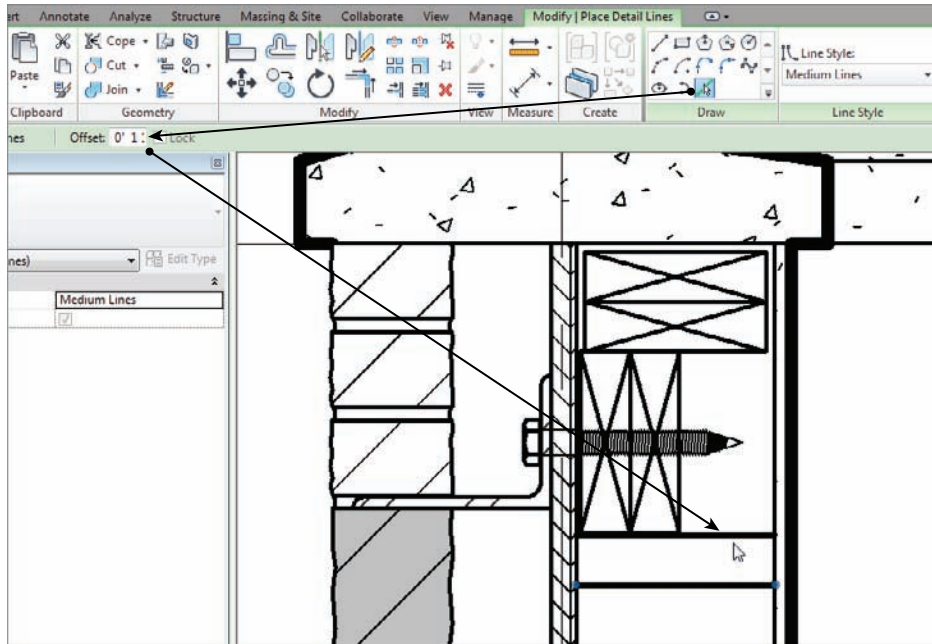

FIGURE 12.49 Offsetting the line down 1 1/2" to create a second line
7. Change the Offset to 1 1/2", as shown in Figure 12.49.
8. Offset the line you just drew down 1 1/2" (see Figure 12.49).